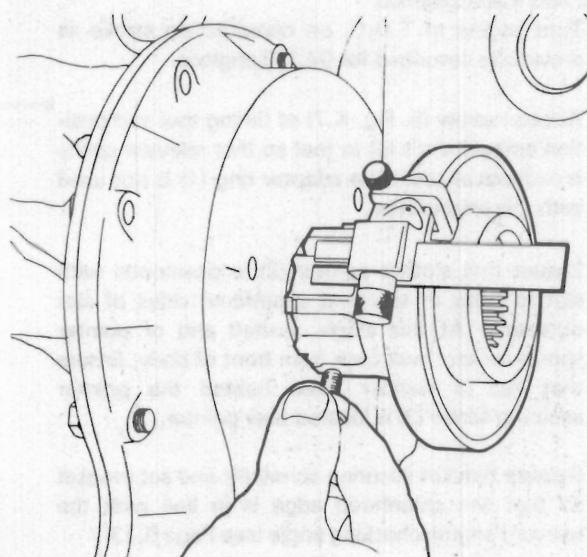

Fig. K.8.
- | 4. Ensure slotted pointer (2) of timing tool is positioned with slot to front of tool and chamfered sides of slot outwards. At this stage, slotted end of pointer should be kept well back from front of body. Ensure that flat of washer fitted behind pointer securing screw (3) is located over pointer.
- | 5. Release the bracket securing screw (4) and set the bracket so that the chamfered edge is in line with the relevant engine checking angle (see Page B.13).
- | 6. Pressing the fuel pump gear and adaptor towards the rear, locate splined shaft of adaptor into timing tool with master spline engaged and lock adaptor shaft in timing tool with rear face of adaptor abutting front face of timing tool (see Fig. K.8).